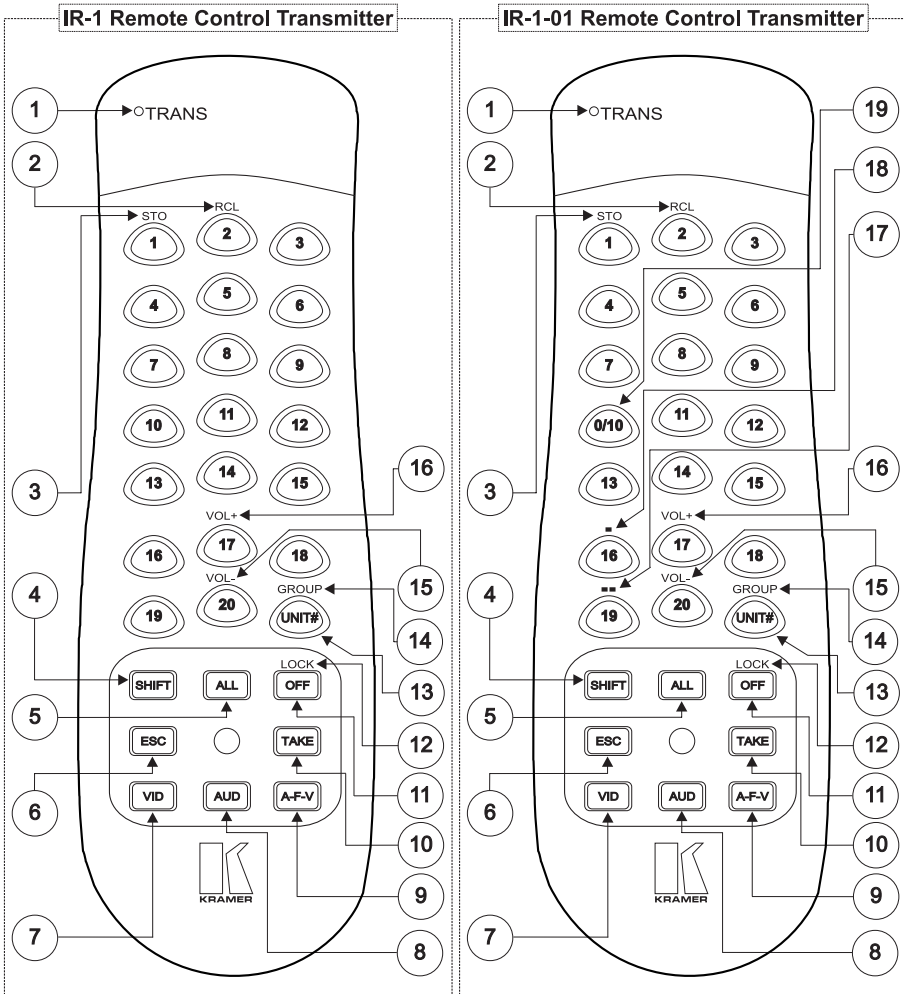

Figure 1: Remote Control Transmitters (IR-1 and IR-1-01)
- Have their own hand held wireless remote control transmitter¹ that includes the protocols of all Kramer devices and is programmable to control any Kramer machine (see Figure 1)
Figure 1 and Table 1 define the **IR-1** and the **IR-1-01** remote control transmitters¹, which require no connection (just insert the battery):